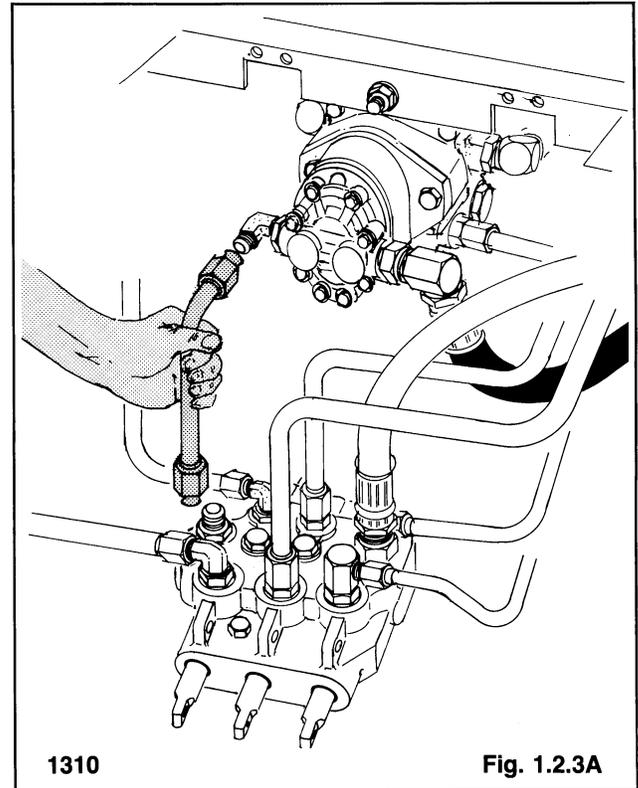

Fig. 1.2.3A
3. Disconnect the line between the hydraulic gear pump and control valve (fig. 1.2.3A).